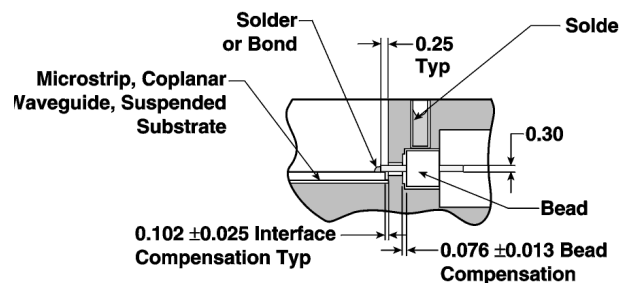

Figure 2. Glass Support Bead Installation
- a. Install the microstrip into the housing. Refer to Figure 2 for the dimensional tolerances around the glass support bead.